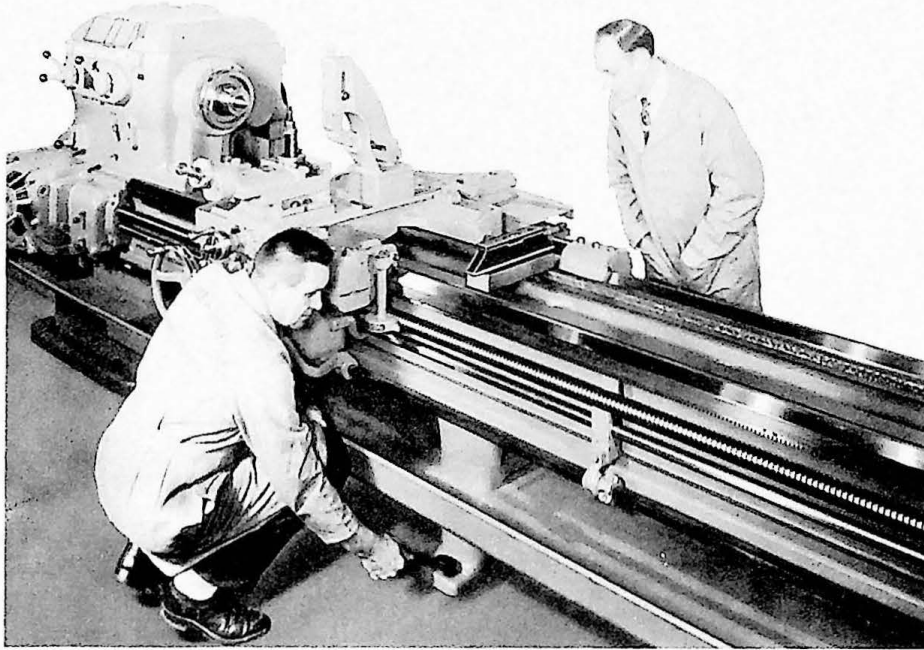

Figure 5
- (4) On machines equipped with center legs, perform the same operation with the parallel bar and level over each center leg, adjusting the screws on the leg over which the level is placed (See Figure 5.)